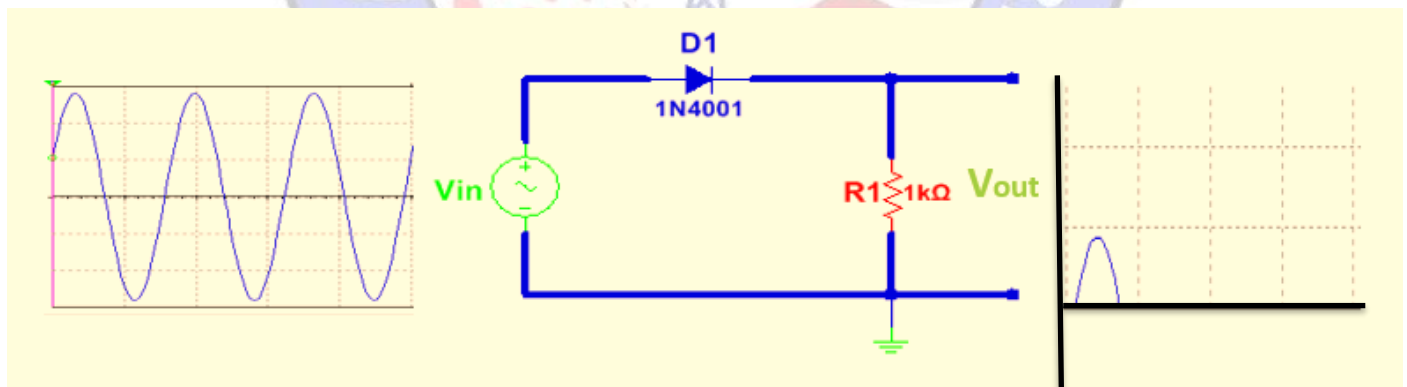

Figure 4: Biased Series Diode Clipping Circuit
When the input signal goes positive and exceeds  $0.7V$ , the diode becomes forward-biased and the output voltage is  $V_{in} - 0.7V$ . When the input voltage becomes less than  $0.7V$ , the diode becomes reverse-biased and no current flows in the circuit resulting in zero output voltage. Fig.4 shows a biased series clipping circuit.
When the input voltage is less than  $V_B + 0.7V$ , the diode does not conduct and no current flows through the load, and hence the output voltage will be  $0V$ . If the input signal becomes larger than  $V_B + 0.7V$ , the diode will conduct and the output voltage becomes  $V_{in} - (V_B + 0.7)$ . The output voltage waveform will be as shown in Fig.4.
- What is the effect of the diode voltage drop on the output of the clipping circuit in Fig.4? Compare the waveforms with those obtained when assuming ideal diodes.